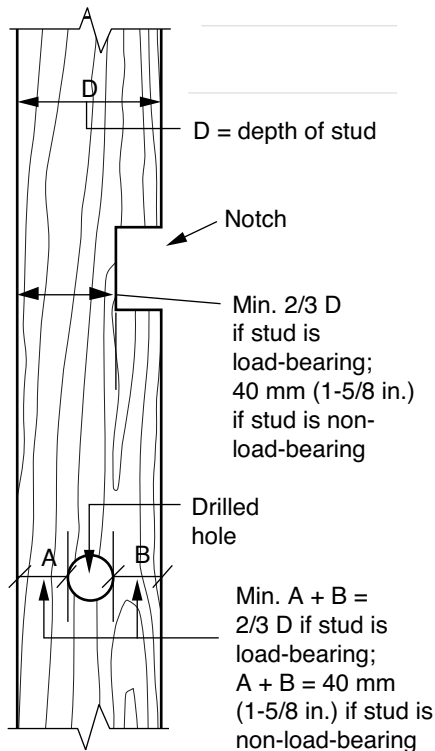

FIGURE 14
- ◆ Notches, chases, holes, and other penetrations through bearing studs are often required for electrical, plumbing, or heating installations. Notches should not exceed one third of the depth of the stud where it is load-bearing (see Figure 14).